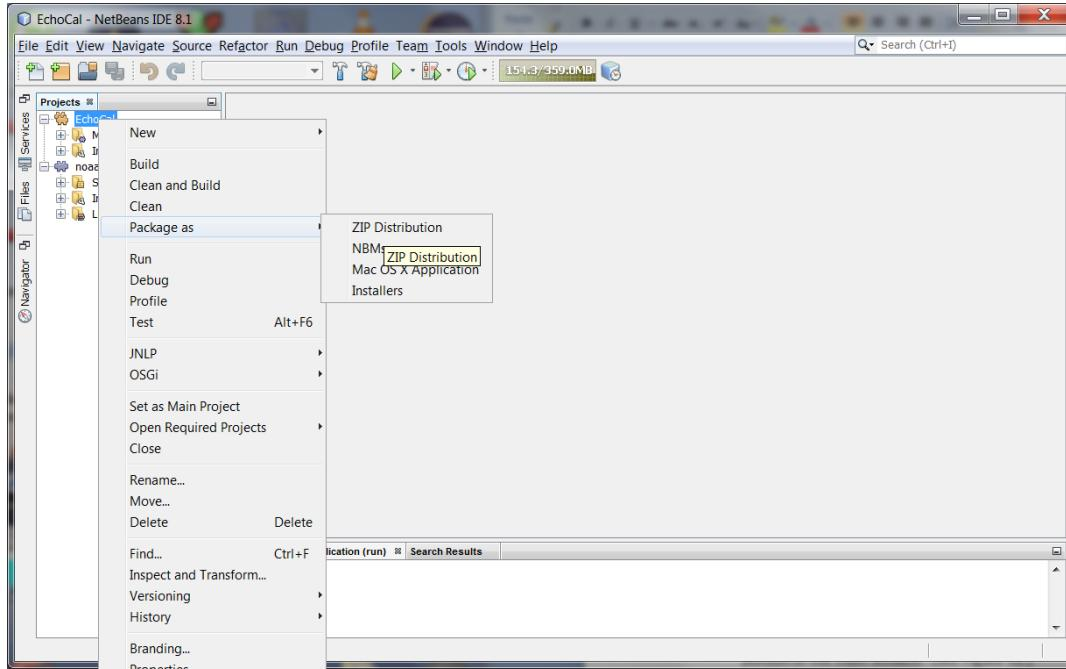

Figure 32: Packaging EchoCal as a ZIP distribution.
2. In the main Netbeans Project window, right-click on the **EchoCal** module in the **Projects** tab portion of the main window and select **Package as/ZIP Distribution** (Figure 32).